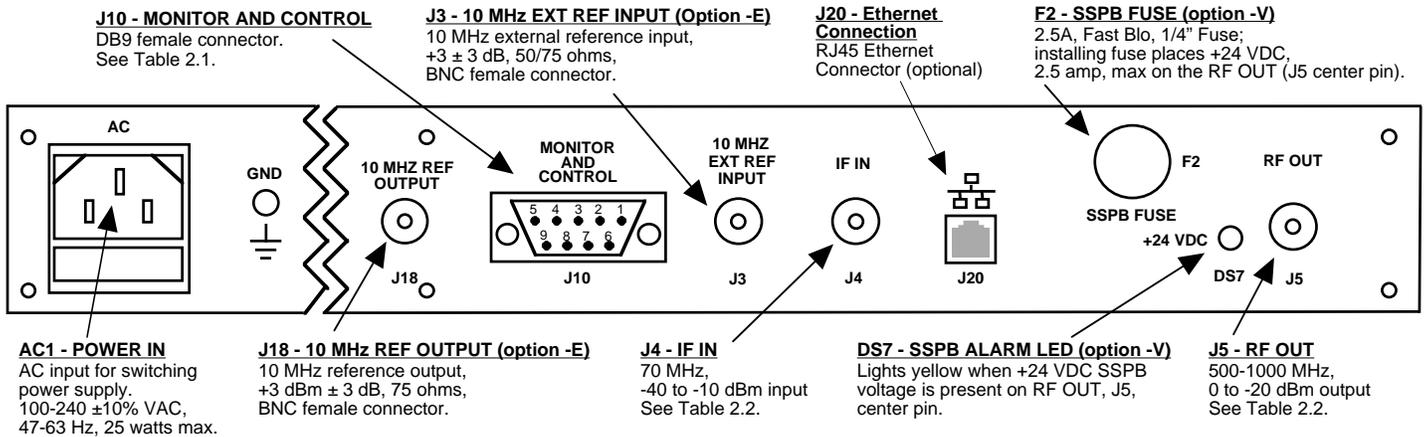

FIGURE 2.2 Rear Panel I/Os
2.2 Rear Panel Input/Output Signals - Figure 2.2 shows the input and output connectors on the rear panel.
1. Connect a -40 dBm to -10 dBm signal to IF In, J4 (Figure 2.2)